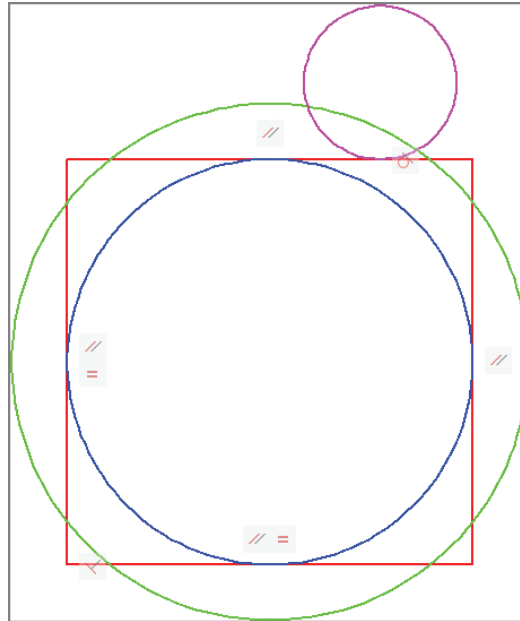

FIGURE 12.11 Applying a tangent geometric constraint
9. Select the ribbon's Parametric tab, and click the Tangent constraint tool in the Geometric panel. Select the top line of the square as the first object and the magenta circle as the second object. The circle moves down to conform to the tangent constraint (see Figure 12.11).